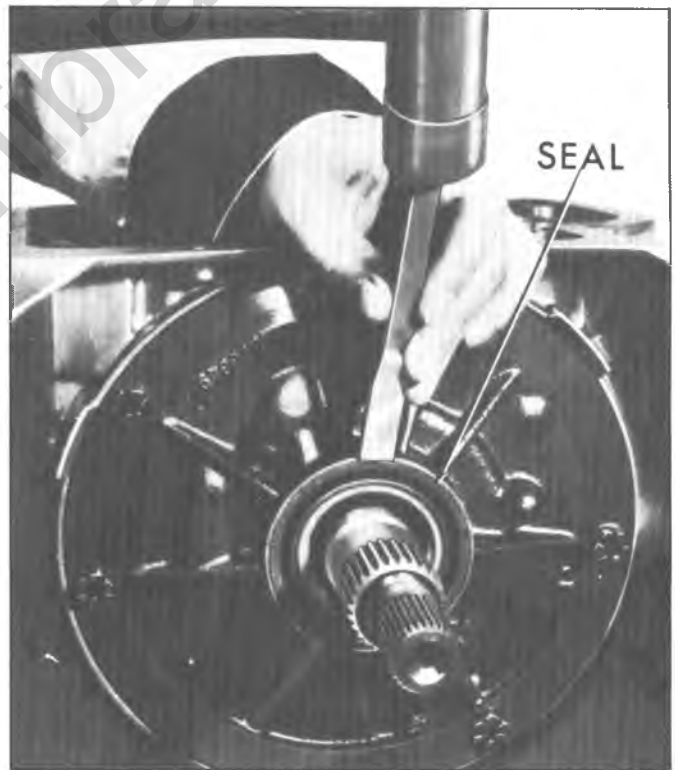

Fig. 26T--Removing Front Seal
1. If necessary to replace, pry front seal from pump (fig. 26T).